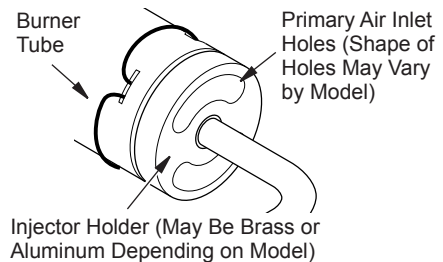

Figure 39 - Injector Holder On Outlet Burner Tube
2. Inspect burner, pilot and primary air inlet holes on injector holder for dust and dirt (see Figures 39 and 40).